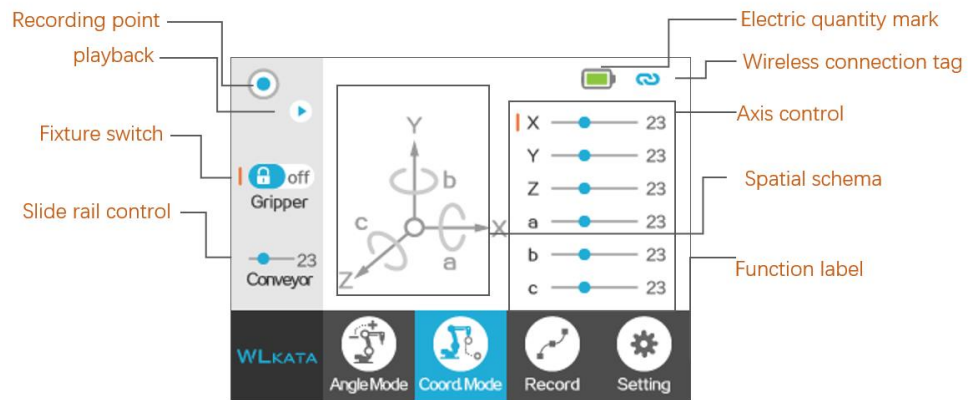

Figure 3.53 Coord. Mode interface of Bluetooth teach pendant
(1) Switch the teach pendant interface to the Coord.Mode interface (also can go to the Angle Mode interface). As shown in Figure 3.53.